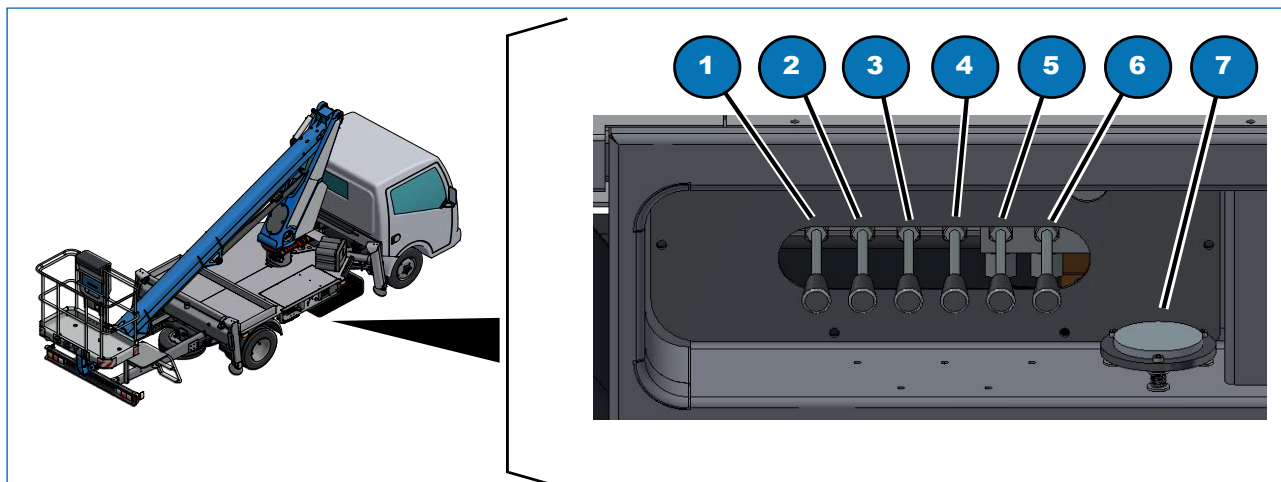

Fig. 6.3
- Extend the stabiliser beams by operating the levers in turn (Fig. 6.3, 5 & 6). Move the levers downwards to extend the beams, upwards to retract.
- Lower the stabilisers by operating the levers in turn (Fig. 6.3, 1, 2, 3 & 4). Move the levers downwards to extend the stabilisers, upwards to retract. Fully extend the stabilisers to lift up the vehicle and take the weight off the suspension.
- Check the spirit level (Fig. 6.3, 7) located under the stabiliser controls and level the vehicle using the stabiliser control levers. The machine is perfectly level when the bubble in the spirit level is at the centre (0°).
- Check that the indicator lights are on (Fig. 6.3, 1, 2, 3 & 4), which indicates that it is possible to raise the boom.
When the indicator light comes on it does not mean that the vehicle has been properly stabilised. This is only indicated by the spirit level (Fig. 6.3, 7).
- retract the stabilisers completely by operating the levers (Fig. 6.3, 1, 2, 3 & 4); retract the beams completely by operating the levers (Fig. 6.3, 5);